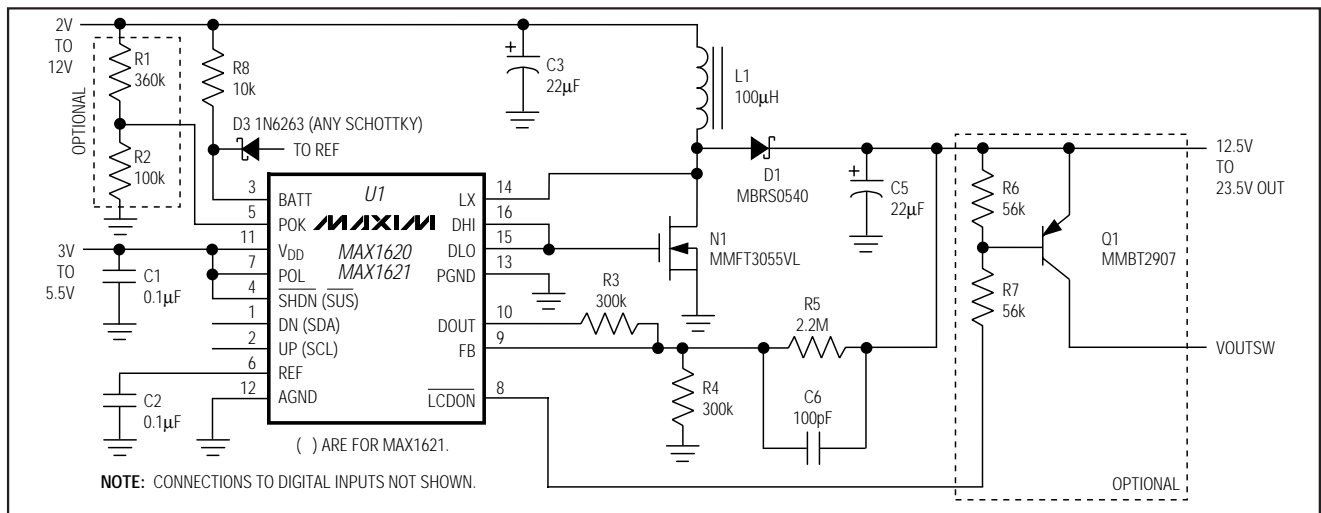

Figure 4. Typical Operating Circuit—Positive Output
To select a positive output voltage, tie the polarity pin (POL) to  $V_{DD}$  and use the typical boost topology shown in Figure 4. FB regulation voltage is 1.5V. For optimum stability,  $V_{OUT}$  should be greater than 1.1 ( $V_{BATT}$ ).
To prevent uncontrolled boosting when the output is disconnected, the feedback resistors must sense the boosted voltage rather than the output of the  $\overline{LCDON}$  switch (Figure 4).
Separate voltage sources can supply the inductor (L1) and the IC ( $V_{DD}$ ). This allows operation from low-voltage batteries as well as high-voltage sources because chip bias ( $150\mu A$ ) is provided by a logic supply (3V to 5.5V) while output power is sourced directly from the battery to L1. Conversely, L1 and  $V_{DD}$  can also be supplied from one supply if it remains with  $V_{DD}$ 's operating limits (3V to 5.5V). If L1 and  $V_{DD}$  are fed from the same voltage, D3 and R8 (Figures 4, 5, 6, and 10) can be omitted, and BATT may be connected directly to  $V_{DD}$ .
The minimum output voltage is set with a resistor-divider (R4-R5, Figure 4) from  $V_{\text{OUT}}$  to AGND. The FB threshold voltage is 1.5V. Choose R4 to be 300k $\Omega$  so that the current in the divider is about 5 $\mu\text{A}$ . Determine R5 as follows:
The DAC is adjustable from 0V to 1.5V in 32 steps, and 1LSB = 1.5V / 31. DAC adjustment of  $V_{OUT}$  is provided by adding R3 to the divider circuit (Figure 4). Be sure that  $V_{OUT,MAX}$  does not exceed the LCD panel rating.
- 3) As an input sensing output cutoff for positive outputs. Connect POK to a voltage divider to sense the input voltage. The output is switched on only when the input reaches the set level (Figure 4).
To control the open-drain output  $\overline{LCDON}$  by sensing the input voltage, connect a resistor-divider (R1-R2, Figure 4) from  $V_{BATT}$  to POK. Choose R2 = 100k. For example, if the minimum battery voltage is 5.3V, determine R1 as follows: